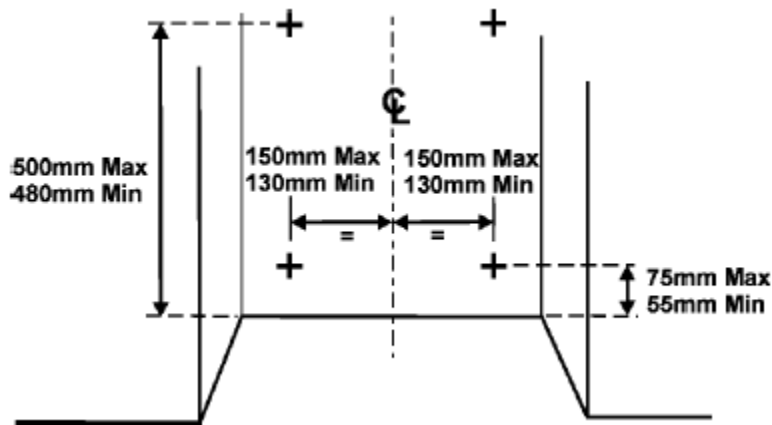

Figure 18. Eyebolt positions
2. Drill four holes in the rear wall of the fireplace for the eyebolt plugs. The holes should be drilled within the range of positions shown in figure 18 using a suitably sized masonry drill. The holes should be equidistant each side of the centre line of the fireplace to ensure that the appliance finishes centrally in the opening when tension is applied to the cables.